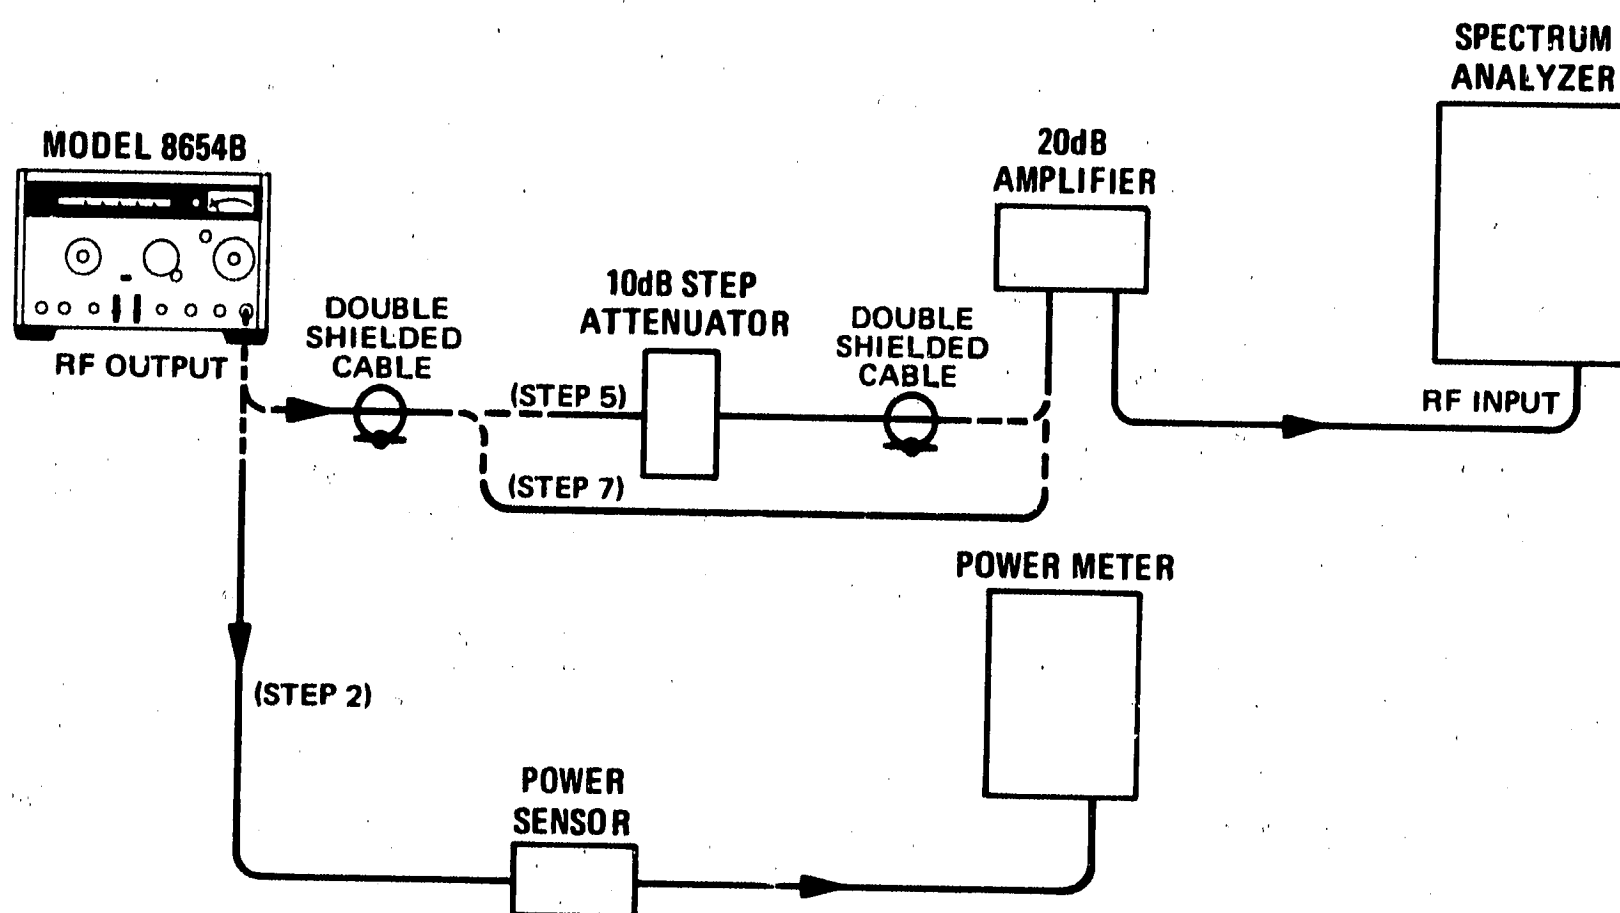

Figure 4-3. Output Level Accuracy Test Setup
5. Connect attenuator, amplifier, and spectrum analyzer together as shown in Figure 4-3, without disturbing generator controls. Center signal on display. Consider center horizontal scale equivalent to +3 dBm. With vertical reference level vernier, set signal peak to be equal to last measured level on power meter.